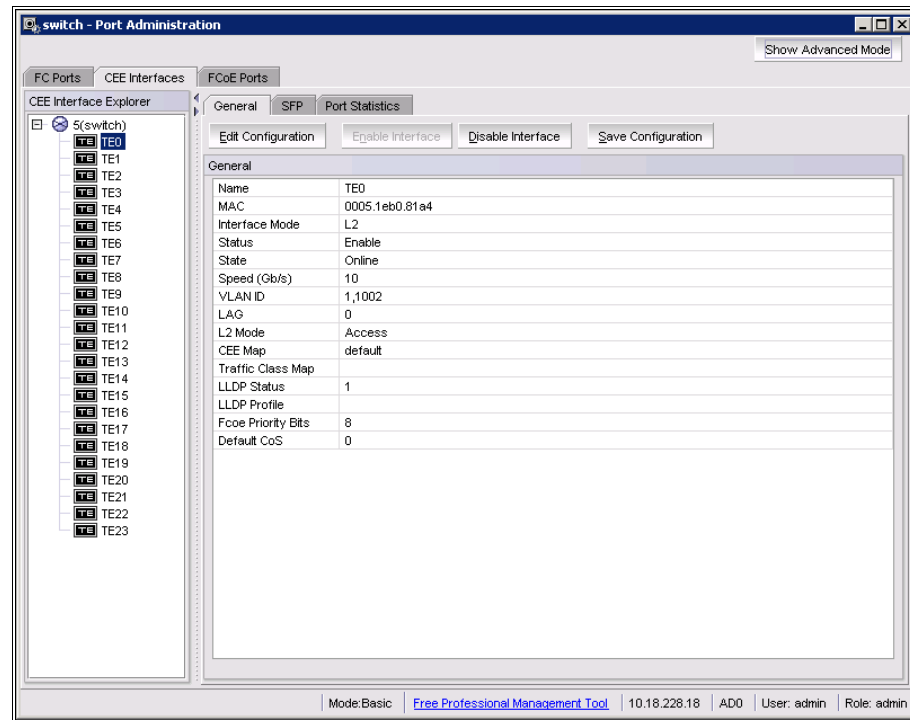

Figure 5-2 Port Administration panel: General tab
- ▶ Click a port. This launches the Port Administration panel (Figure 5-2).
- ▶ Right-click a port, and select **Port Administration**. This also launches the Port Administration panel (Figure 5-2).